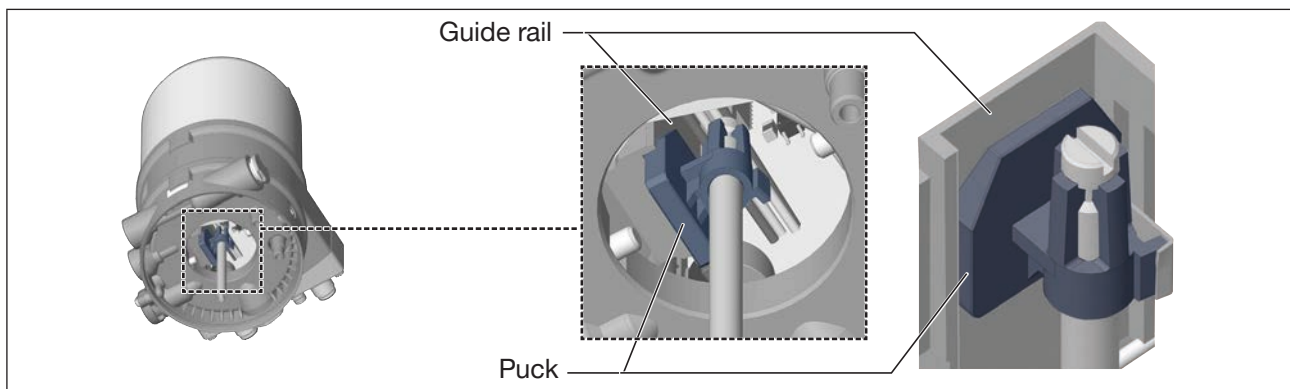

Figure 19: *Aligning the puck*
- Place Type 8692/8693 onto the actuator. In doing so, align the puck of the actuator with the guide rail of Type 8692/8693 (see Figure 19).